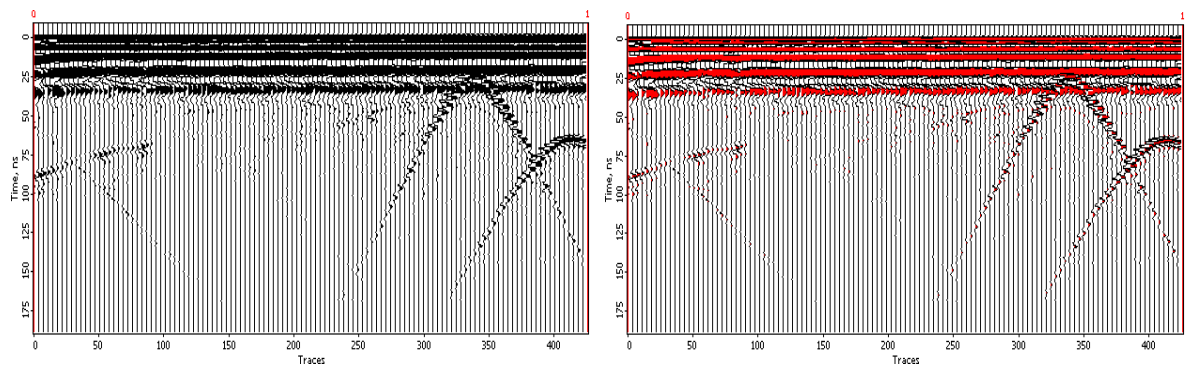

Fig. 4.2. Wiggle plot profile output (black-and-white and colored one)
- **Profile** – or a radargram, this is a set of traces that came to the receiving antenna in the time interval from the moment the sounding pulse was sent until the end of the time range sweep, preset by the operator, containing two-dimensional information about the reflected signals received as a result some route passing. The profile can contain any number of traces. The horizontal axis of the profile is the X axis in meters. The vertical axis of the profile is the time axis Y with the zero at the moment of the sounding pulse radiation, where the end corresponding to the end of the trace recording (time range sweep). Examples of profiles in various output types are shown in Fig. 4.2 and 4.3. A profile (or some number of profiles) as a file (-s) is the final result of data acquisition. The next steps are data processing (if necessary), its interpretation and printing (if necessary).
- **Wiggle plot** – is a method of the profile output, where traces are located vertically at constant distance from each other. The trace (or an average group of traces) drawing is made by a curved line, which is deviating from the trace axis line from side to side, depending on the amplitude of each sample in the trace. In this case, the positive half-waves of the signals are painted with the color corresponding to the maximum positive level of the selected color scale. The wiggle plot output examples are shown in Fig. 4.2.